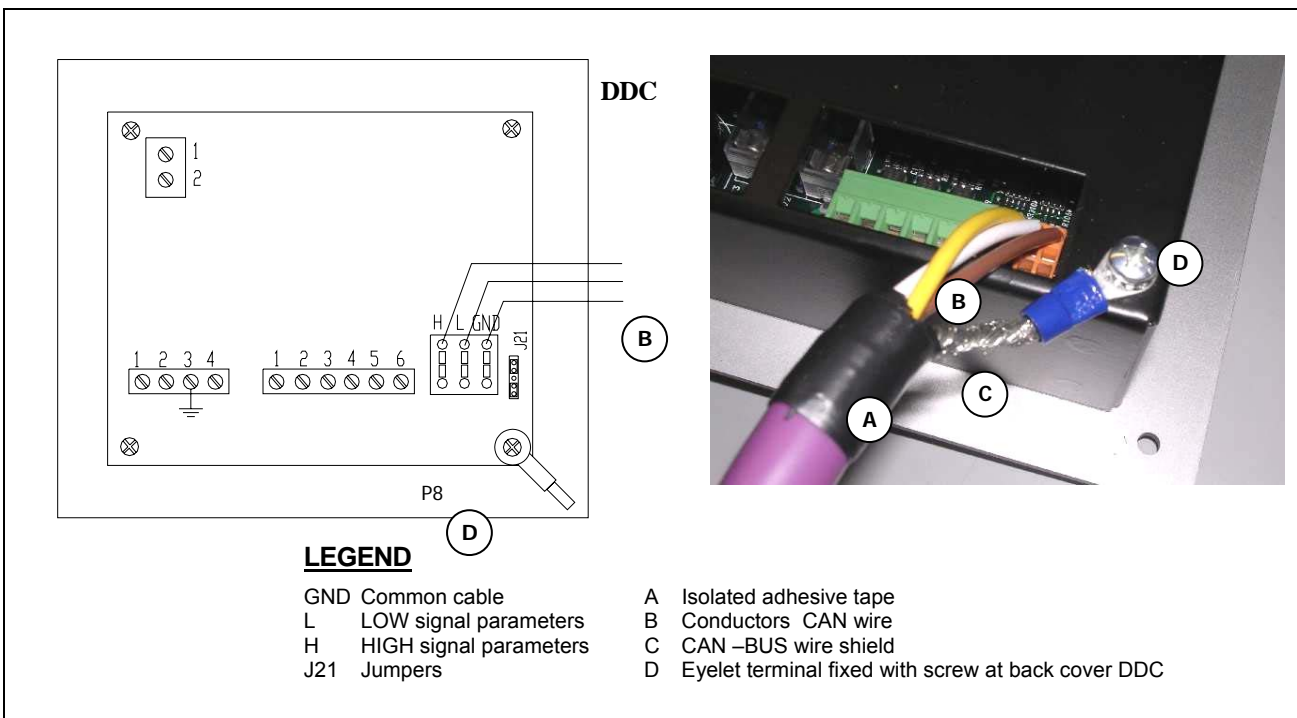
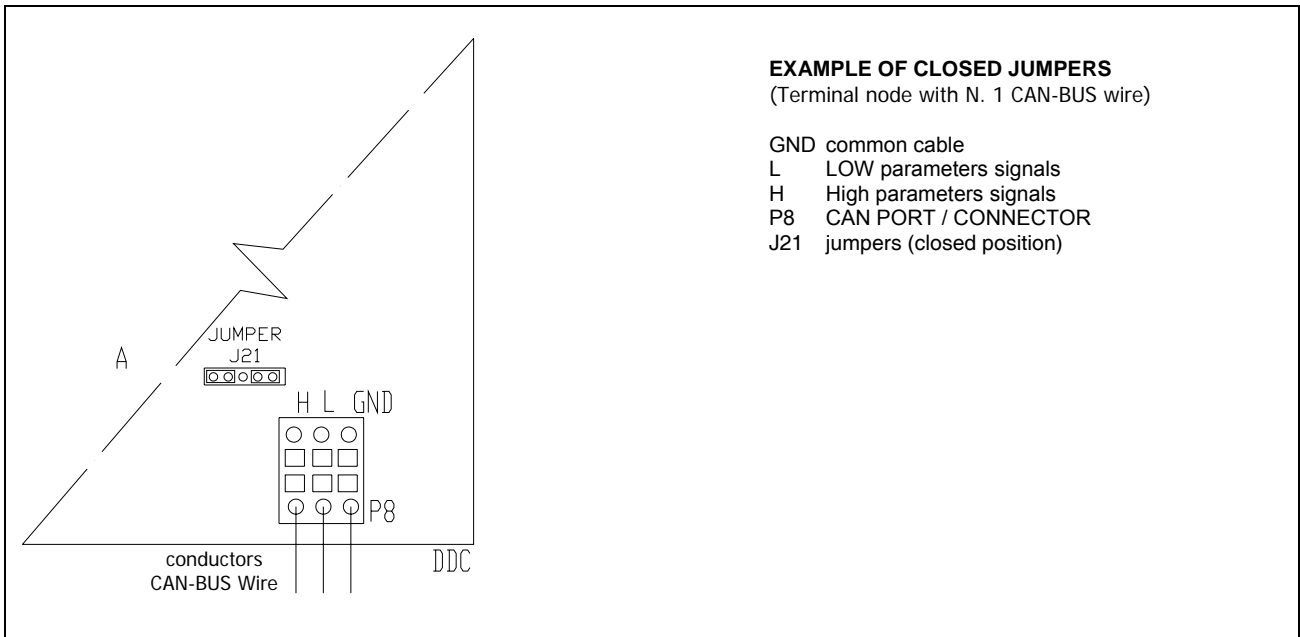

Figure 25 – EXAMPLE OF CAN-BUS WIRE CONNECTION TO DDC (only one entry CAN-BUS wire)
Figure 26 – DETAILED EXAMPLE OF ONE CAN-BUS WIRE CONNECTION TO DDC
Like the orange connector of the electronic control board, the DDC connector, too, has two different situations of connection (see Figure 26, Figure 27 page 49). The Jumpers (J21) are closed in the factory as in 1st CASE.
2. Connect 3 conductors of CAN-BUS wire (Particular B, Figure 25) respecting the signal/color indications as in Table 17, page 45 with three inlets H, L, GND of the connector as in Figure 25; see also Figure 26, page 49.
- 5a Roll up the cut shield of the above mentioned CAN-BUS wire and connect it with an eyelet terminal of 0.16” (particular C&D, Figure 25).
- 5b (only for intermediate node) roll up the cut shield of the other CAN-BUS wire and connect it with eyelet terminal of 0.16” (particular C&D, Figure 25).
6. Unscrew the right bottom screw of the DDC back cover (particular D, Figure 25) and inset it to the eyelet terminal (s) and screw it down again.
- 7 Isolate – with suitable adhesive tape – the shield part of the wire (particular A, Figure 25).